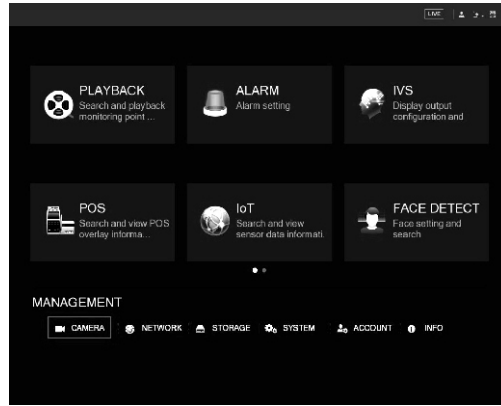

Figure 4-2
The Main Menu interface is displayed. See Figure 4-2.
**Step 1** In the Main Menu interface (Figure 4-2), select **CAMERA > ENCODE > Encode**.